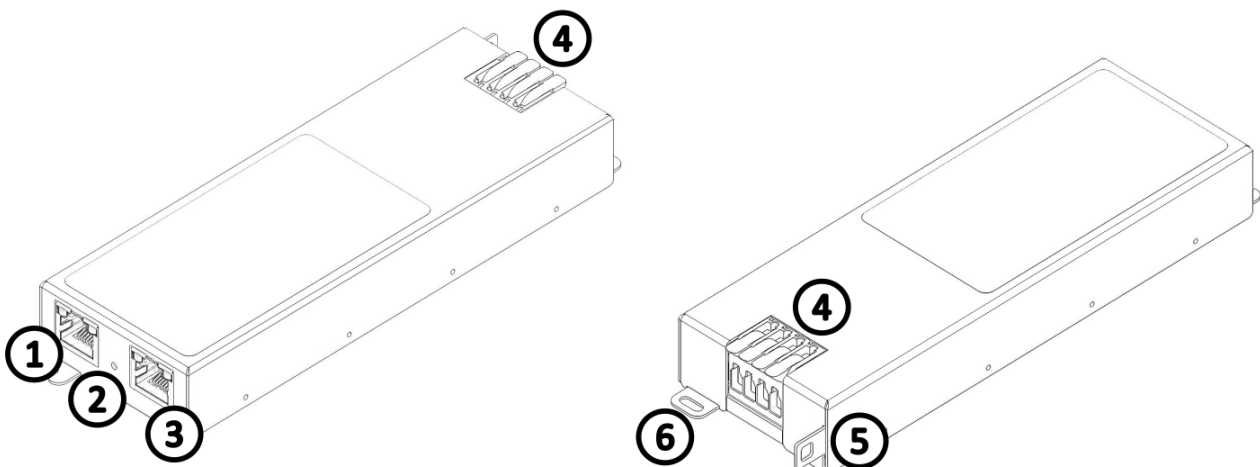
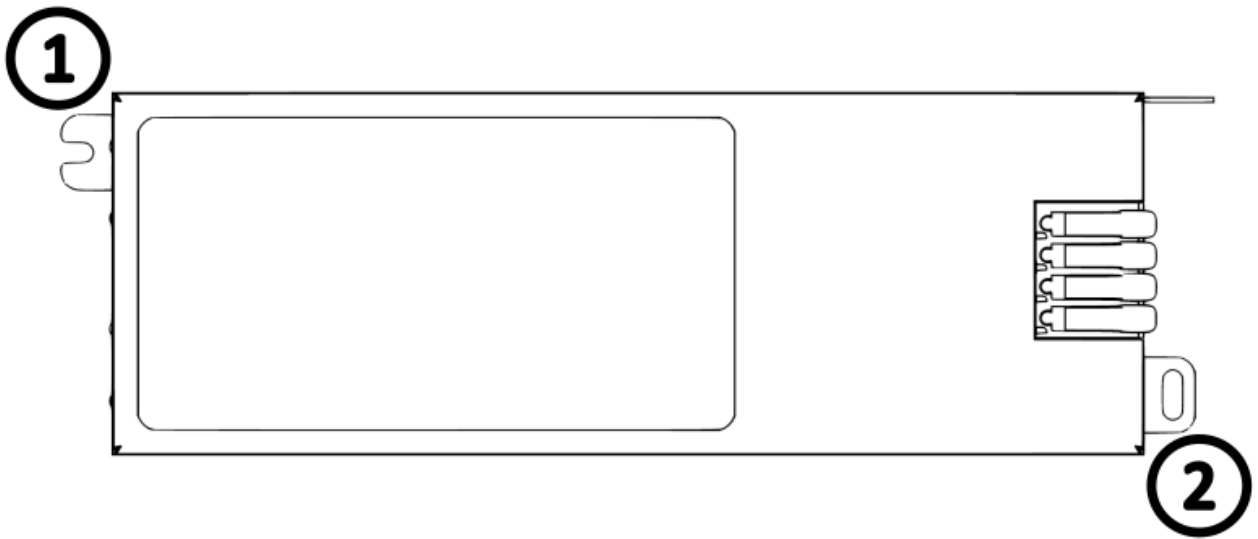
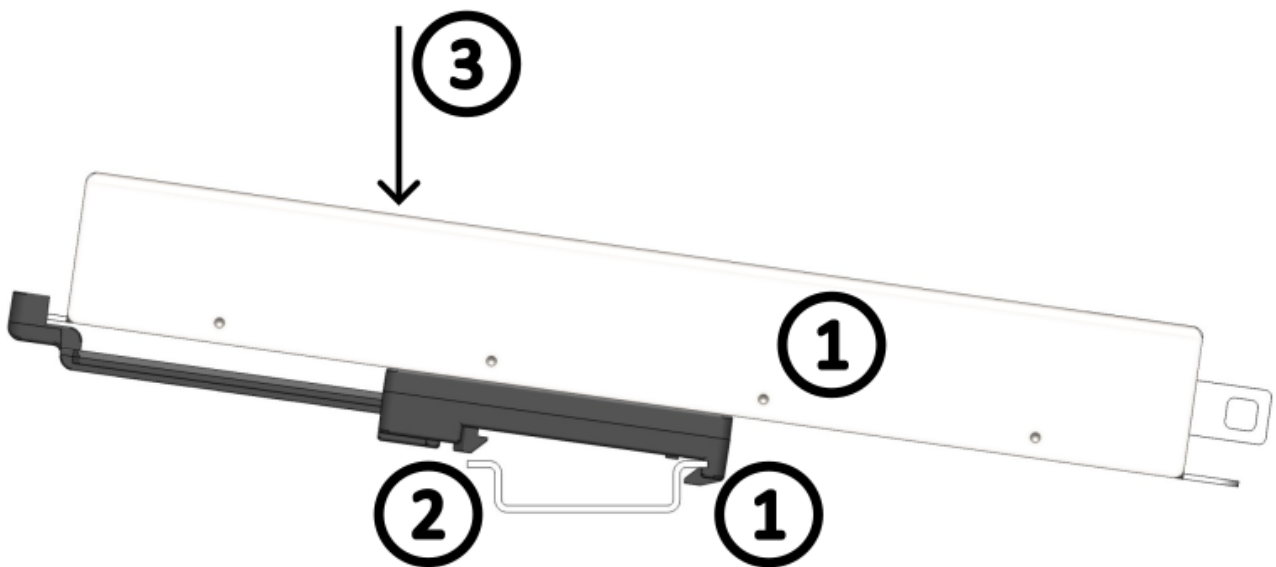

Figure 1. Interfaces - SLCv3
Figure 3. Mounting tabs - SLCv3
Figure 5. Top hat rail mounting - SLCv3
On its bottom side the Smart Lighting Controller housing (Fig. 3, ①) is optionally equipped with a clamp for mounting the device onto a standard top hat rail (Fig. 3, ②).
If the clamp is not already assembled and attached to the housing upon shipment, please assemble and attach it to the housing. Be sure the clamp's release lever (Fig. 3, ③) is pointing to the side with the Ethernet port (Fig. 1, ③).
1. Place the housing with the clamp's stationary fixture over the top hat rail (Fig. 3, ④).
2. Gently press the housing (Fig. 3, ⑤) until the clamp snaps into the top hat rail (Fig. 3, ②) with an audible click.
- Connect the LED light cable to the push-in clamp (Fig. 1, ④).
- Connect the Smart Sensor cable to the Smart Sensor port (Fig. 1, ①).
The MICROSENS Smart Lighting Controller is supplied by PoE (PD) via the Ethernet port (Fig. 1, ③).
Assuming, powering of the Smart Lighting Controller is done via a centralised far off PoE PSE device, it is important to connect the grounding lead of the controller's chassis (Fig. 1, ⑤ or ⑥) to the building's ground potential and thus avoid "floating ground" problems. Besides safety issues, a floating ground of the network can cause problems if only one component is accidentally or purposefully is grounded (Fig. 5).
The Smart Lighting Controller is equipped with a reset button (Fig. 1, ②);